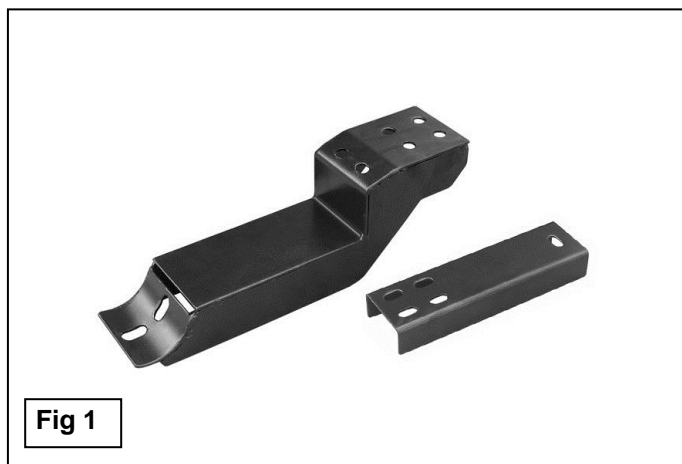

Fig 1
- Select (1) Front Mounting Bracket and (1) Front Support Bracket, **(Figure 1)**. Line up the (4) main mounting holes in both brackets and bolt the Support Bracket to the bottom of the Mounting Bracket with the included (4) 8mm x 20mm Flange Hex Bolts and (4) 8mm Locking Flange Nuts, **(Figure 2)**. Do not tighten hardware at this time.